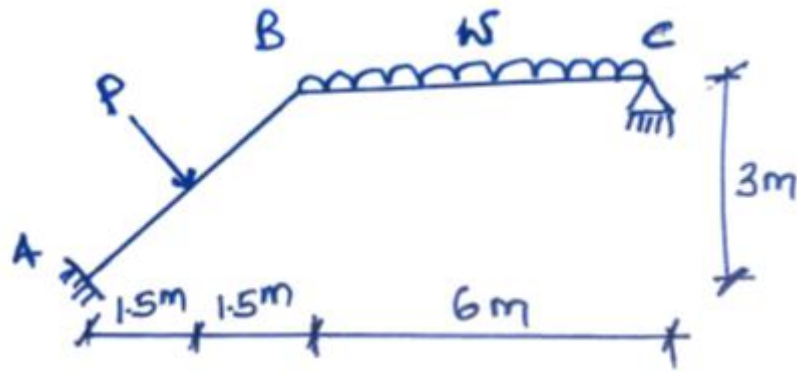

Fig. 2
2. In Fig 2., member AB is loaded with a point load of magnitude P and has stiffness EI_1 . Member BC has a uniformly distributed load of magnitude ω and has stiffness EI_2 . Transforming the stiffness matrix for member AB, demonstrate from first principles how the global member stiffness matrix can be assembled from local member matrices AB and BC. Derive an expression for the global stiffness matrix for the structure. (20 marks)
3. Refer to Fig 2., if $P=50 \text{ kN}$, $\omega = 30 \text{ kN/m}$ and $E=200\text{kN/mm}^2$. Member section $AB=$ Member section $BC= 40\text{cm}$ by 40 cm .